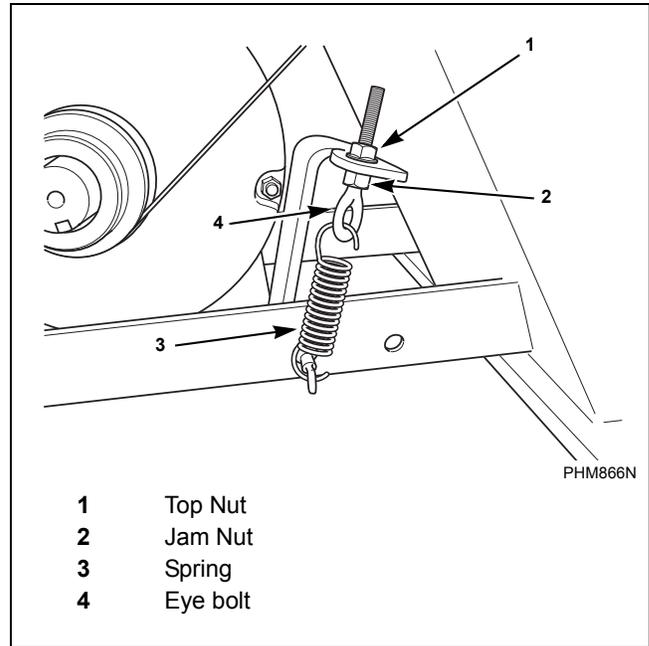

Figure 37
- **Frequency Gauge.** Tighten eyebolt top nut until a frequency of 58 Hz (± 2 Hz) is obtained mid-span. Tighten jam nut to spring bracket. Refer to *Figure 37*.